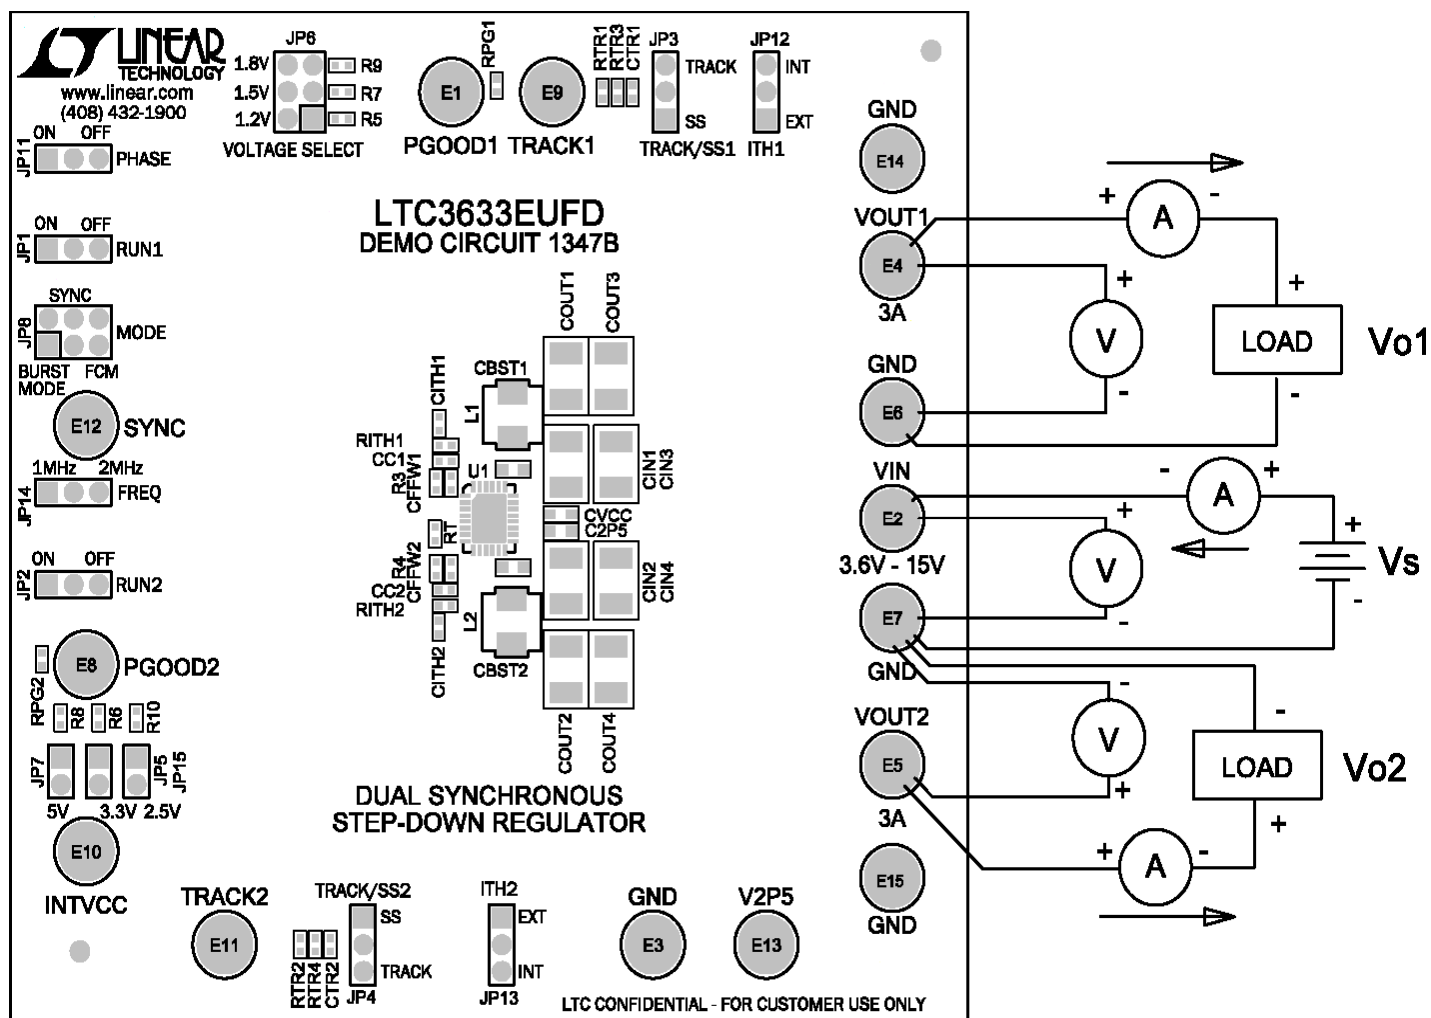

Figure 1. Proper Measurement Equipment Setup
The DC1347 is easy to set up to evaluate the performance of the LTC3633. For a proper measurement equipment configuration, set up the circuit according to the diagram in Figure 1.
1. Connect the input power supply to the Vin and GND terminals. Connect the loads between the Vout and GND terminals. Refer to figure 1 for the proper measurement equipment setup.